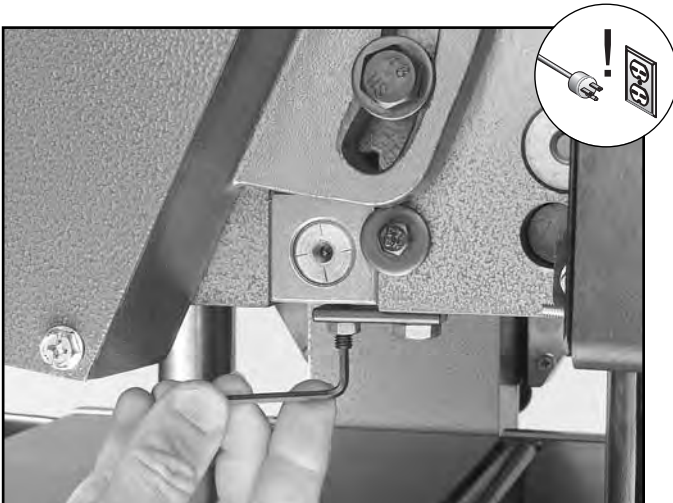

Figure 38. Feed roller height adjustment.
- Loosen the roller adjustment check nuts and turn the roller height setscrews to change the height of the roller as needed. **See Figure 38.**